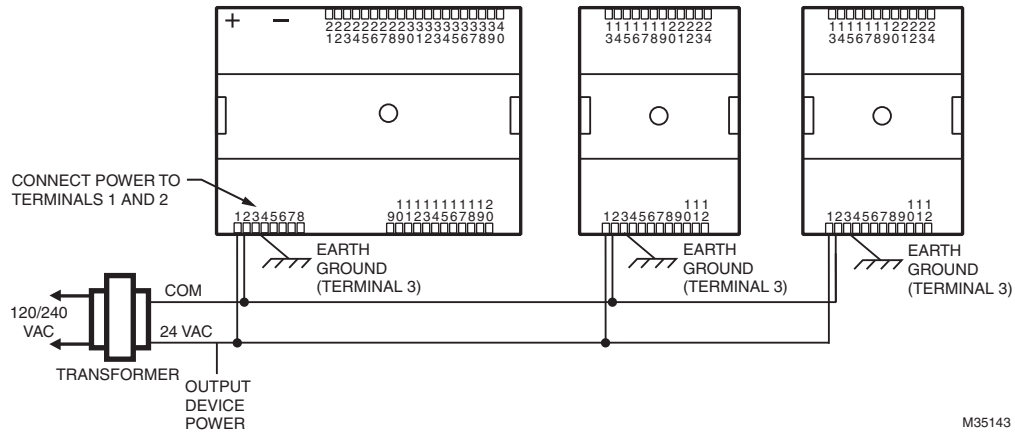

Fig. 6. Power wiring details for two or more controllers and devices per transformer.
- When multiple controllers operate from a single transformer, connect the same side of the transformer secondary to the same power input terminal in each device. The earth ground terminal (terminal 3) must be connected to a verified earth ground for each controller in the group (see Fig. 6 on page 7).
See Fig. 4–Fig. 6 beginning on page 6 for illustrations of controller power wiring. See Table 4 for VA ratings of various devices.
- For multiple devices operating from a single transformer, the same side of the transformer secondary must be connected to the same power input terminal in each device. The earth ground terminal must be connected to a verified earth ground for each device in the group (see Fig. 6 on page 7). Device configurations are not necessarily limited to three devices, but the total power draw, including accessories, cannot exceed 100 VA when powered by the same transformer (U.S. only).
- Keep the earth ground connection wire run as short as possible (refer to Fig. 4–Fig. 6 beginning on page 6).
- Do not connect earth ground to the device's digital or analog ground terminals (refer to Fig. 4 and Fig. 6).
- For multiple controllers and devices operating from a single transformer, the same side of the transformer secondary must be connected to the same power input terminal in each controller. Controller and device configurations will not necessarily be limited to three devices, but the total power draw, including accessories, cannot exceed 100 VA when powered by the same transformer (U.S. only). For power and wiring recommendations, See “Power” on page 3. The earth ground terminal (terminal 3) must be connected to a verified earth ground for each controller or device in the group (see Fig. 6 on page 7).
- Do not connect the universal input COM terminals, analog output COM terminals or the digital input/output COM terminals to earth ground. Refer to Fig. 4–Fig. 6 for wiring examples.
More than one controller and device can be powered by a single transformer. Fig. 6 shows power wiring details for multiple controllers.